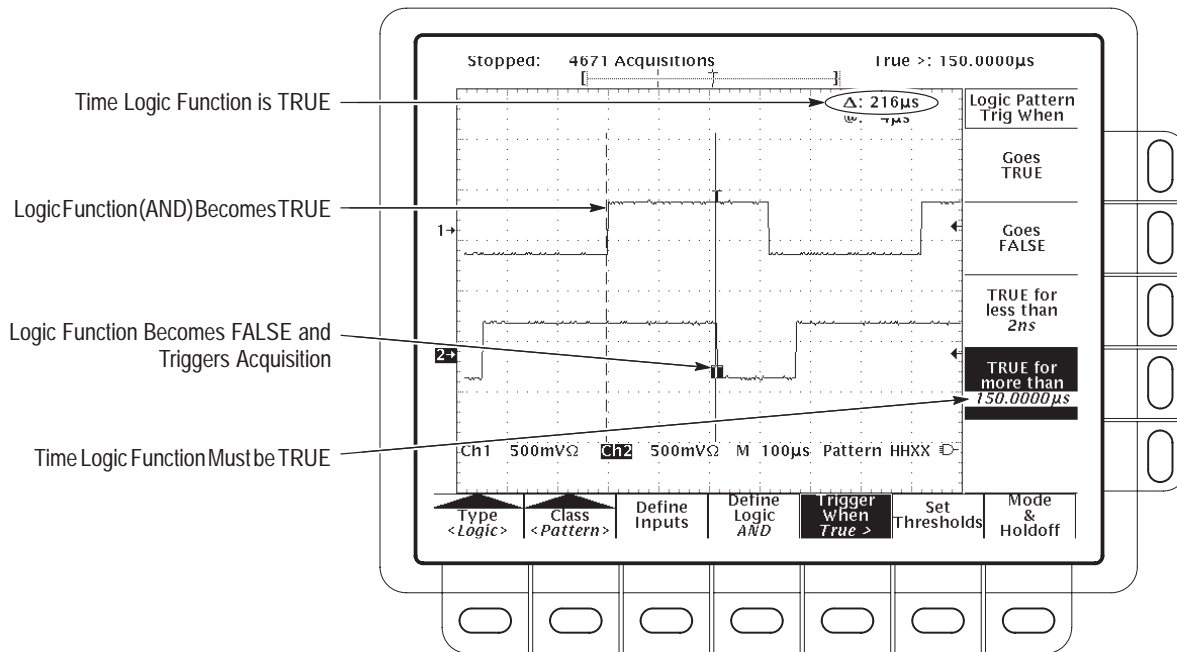

Figure 3-37: Logic Trigger Menu — Time Qualified TRUE
Note the position of the trigger indicator in Figure 3-37. Triggering occurs at the point the logic function you specify is determined to be true within the time you specify. The digitizing oscilloscope determines the trigger point in the following manner:
In Figure 3-37, the delay between the vertical bar cursors is the time the logic function is TRUE. Since this time is more (216  $\mu$ s) than that set in the True for more than menu item (150  $\mu$ s), the oscilloscope issues the trigger at that point, not at the point at which it has been true for 216  $\mu$ s.